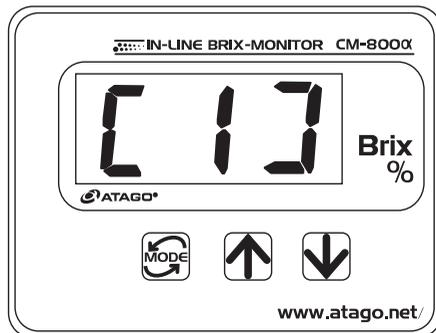

Fig.12-1
- ④ Press the  for one second. After [0] is displayed, press the  key once to display [1] (Fig.12-1). Then, press the  key.
- ⑥ Pressing the  sets the adjustment and the display returns to [1] (Fig.12-1).
- ⑦ Each time the  is pressed, the menu item displayed switches in the order of: [2], [3], [4], [5], and Brix(%). Select Brix(%).
**memo** If 30 seconds pass when in steps ④ through ⑥ above, the display returns to the continuous Brix(%) display.